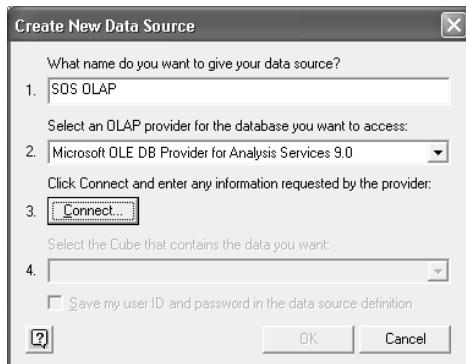

Figure 19.1 Start building a PivotTable report by setting up the report data source.
- In the Create New Data Source dialog (Figure 19.1), enter **SOS OLAP** as a data source name.